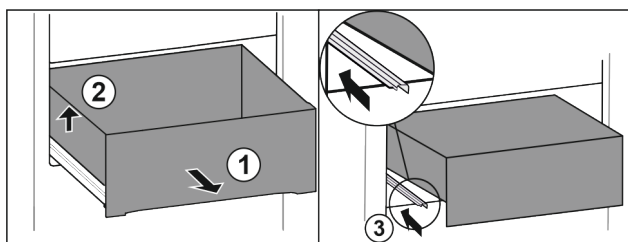

Fig. 88
- ▶ Pull out drawer as far as it will go. Fig. 88 (1)
- ▶ Lift drawer on the left. Fig. 88 (2)
- ▶ Insert left rail. Fig. 88 (3)